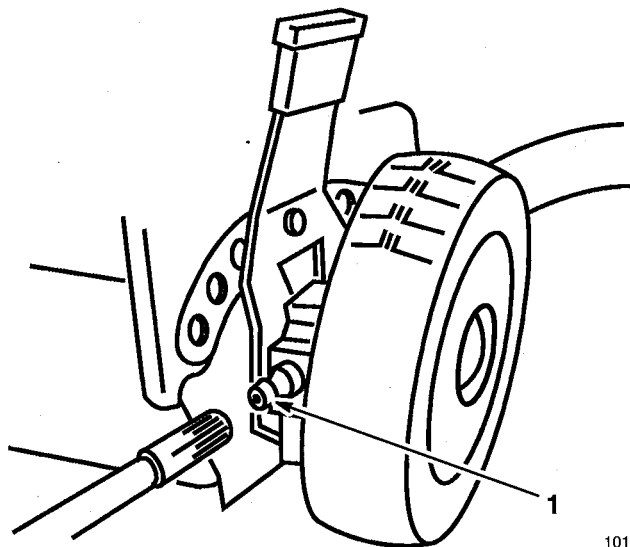

Figure 33
- Wipe grease fittings on rear height-of-cut adjusters (Fig. 33) with a clean rag.